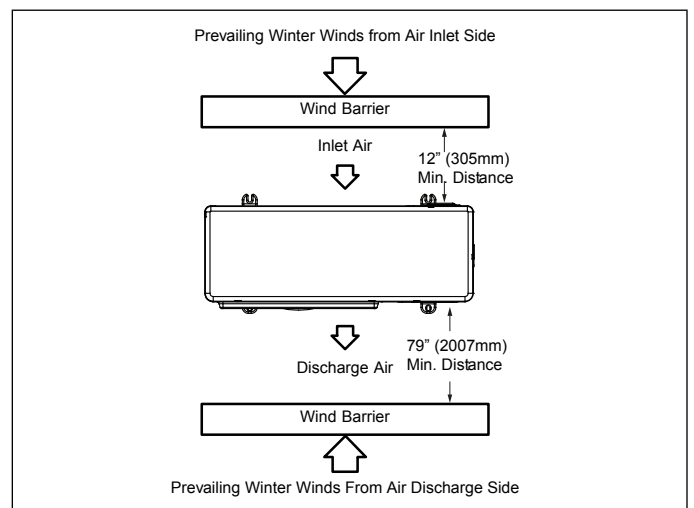

Figure 23. Wind Barrier
- When prevailing winds are from the air inlet side, then position the wind barrier a minimum of 12 inches (305 mm) from the unit as illustrated in “Figure 23. Wind Barrier”
- When prevailing wind is into the discharge side, then position the wind barrier a minimum 79 inches (2007 mm) from the front of the unit as illustrated in “Figure 23. Wind Barrier”